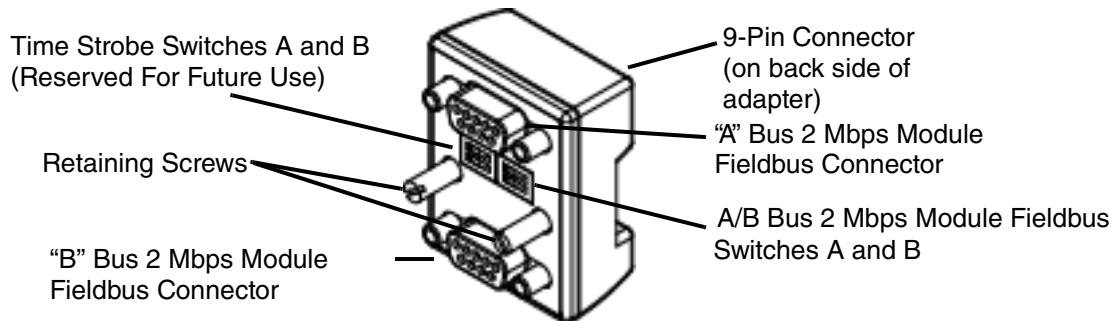

Figure 5-55. P0926KW Module Fieldbus/Time Strobe Terminator
4. For a non-FCP280 baseplate, insert terminator (P0926KW or P0916RB) (see Figure 5-55) into the Time Strobe and Fieldbus termination 9-pin connector on the last or only baseplate in the enclosure. Tighten the two retaining screws.
4. Insert terminator (P0926KW or P0916RB) (Figure 5-55) into the last or only baseplate in the enclosure. Tighten the two retaining screws.